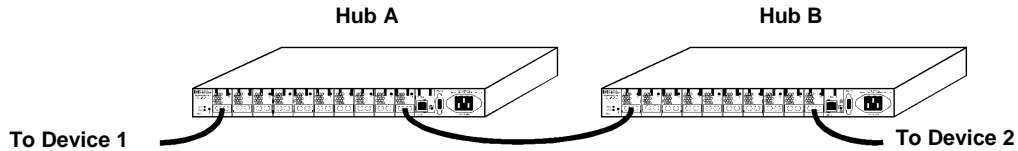

Figure 28. Cascaded HP FC-AL short-wave hub (HP A3724A) configuration
- If connecting short-wave hubs, refer to figure 28.